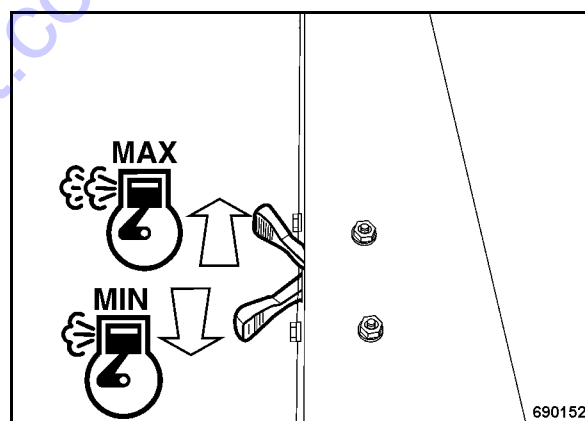

Fig. 28
- Keep shifting the throttle lever (Fig. 28) between "MIN" and "MAX" positions.